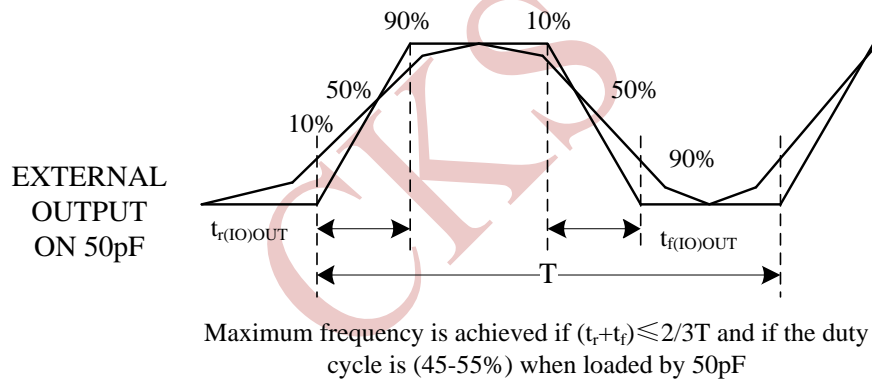

Figure 16. I/O AC characteristics definition
The definition and values of input/output AC characteristics are given in Figure 16 and Table 35, respectively.
2. The maximum frequency is defined in Figure 16.